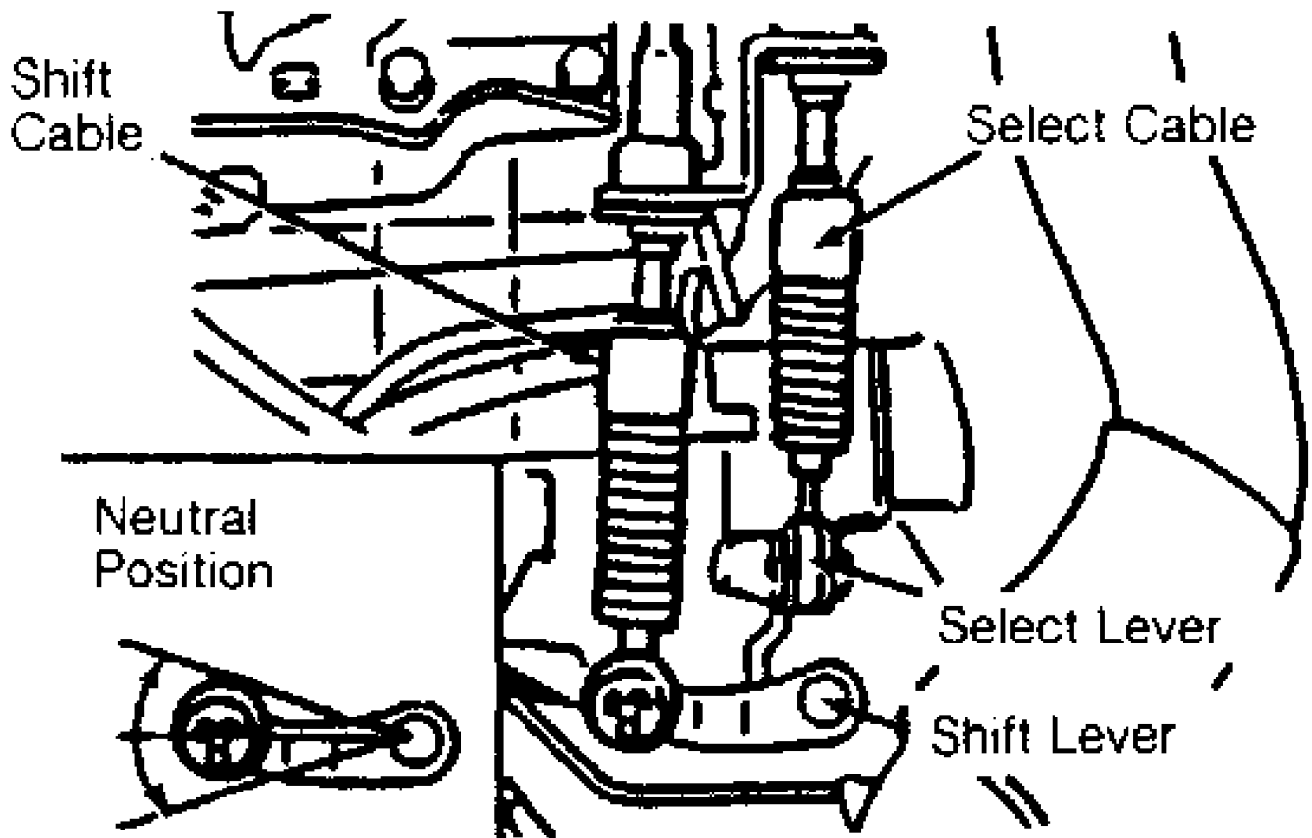

Fig. 1: Transaxle Control Cables (Typical)
- 1) Place transaxle side shift lever in Neutral. This will also place transaxle side select lever in Neutral. See Fig. 1.